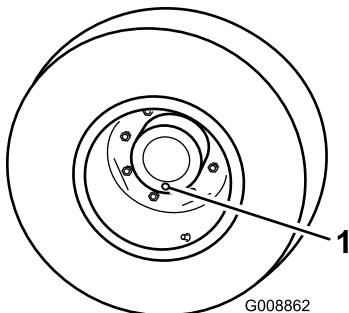

Figure 73
1. Check/drain plug (2)
2. Remove the plug at the 3 o'clock position (Figure 73).
1. With the machine on a level surface, position a wheel so a check plug is at the lowest (6 o'clock) position (Figure 73).